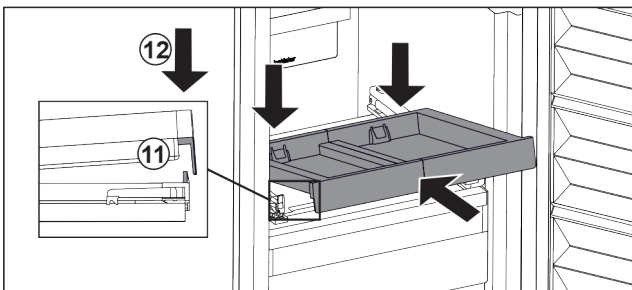

Fig. 93
- ▶ Slide in at an angle. Make sure that the stop is behind the lug on both sides. Fig. 93 (11)
- ▶ Lower the pull-out board at the front. Fig. 93 (12)